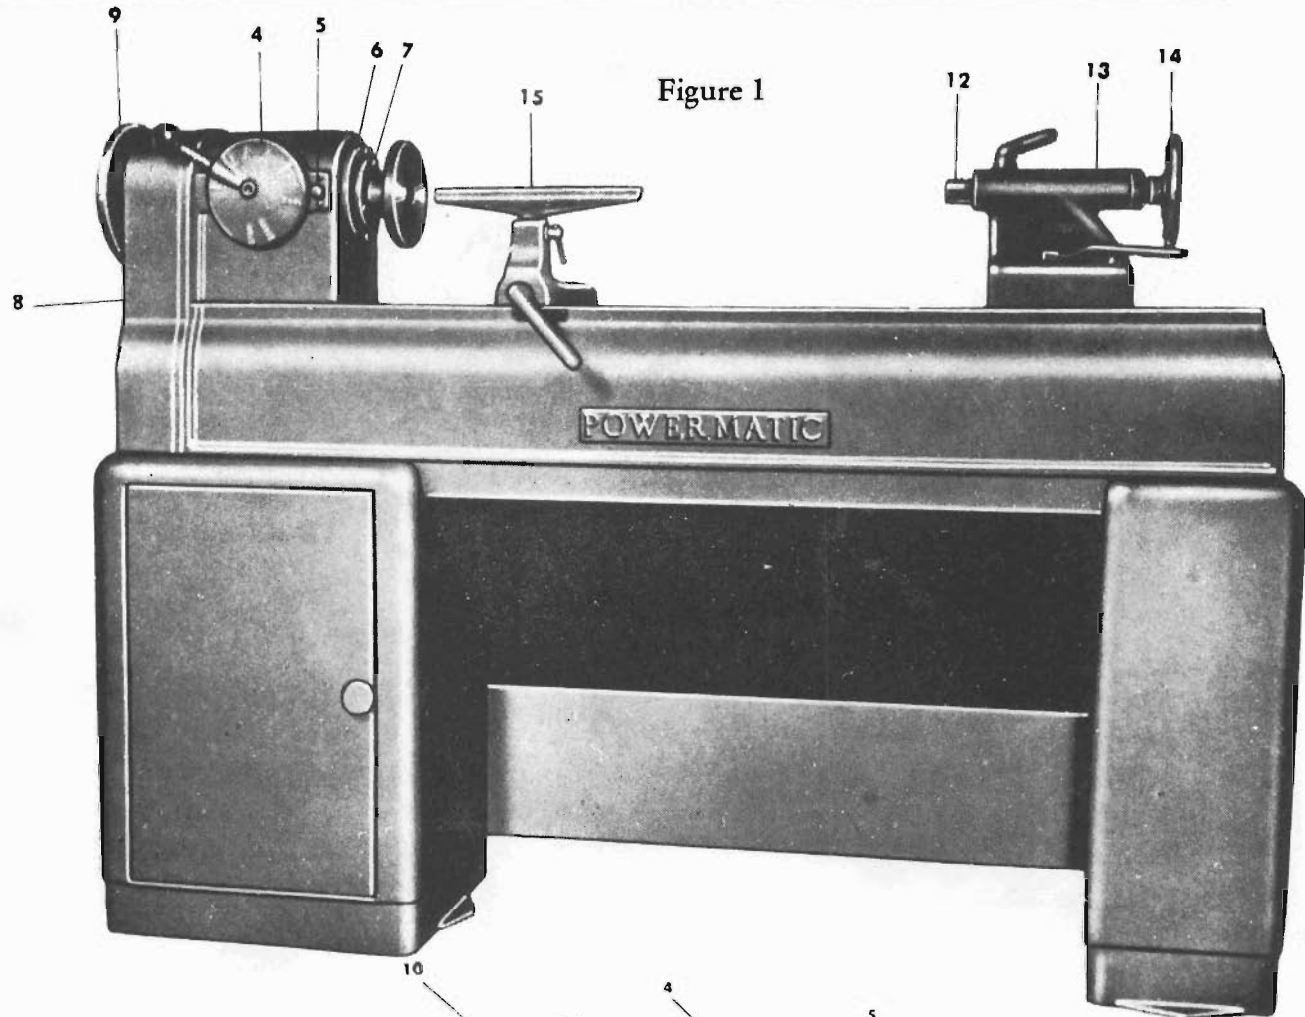

Figure 1
MOTOR: The lathe is equipped with a 1 HP 1800 RPM motor, mounted in lathe bed. The motor is checked at the factory and should give years of trouble free service. To inspect and service motor, remove guard (8) fig. 1, from end of lathe head stock by removing bolt in guard.
BELT AND DRIVE: The lathe spindle is driven with two variable split sheaves and a flat V-belt. The motor sheave is spring operated (10) fig. 2, and the lathe sheave spring operated (1) fig. 2, by a cam inside the lathe head and controlled with the variable speed plate (4) fig. 1. To remove drive belt, turn the power OFF the power line to the lathe, remove guard, turn the variable speed handle to the 4000 RPM position and remove belt. To replace belt, set variable speed dial to 4000 RPM position and replace belt. Turn variable speed handle back to the "stop" position, apply a steady pressure on the variable speed handle and rotate the spindle by hand until the belt has been forced to the outside of the spindle sheave. DO NOT FORCE HANDLE WITHOUT ROTATING SPINDLE.
SPINDLE: To remove the spindle, first remove the face plate (9) fig. 1 by locking the spindle with the locking pin (5) fig. 1 and removing the face plate (left hand threads). Remove the guard, drive belt and speed dial. Loosen the two set screws on the locking collar (3) fig. 2 and unscrew the collar (left hand threads). Loosen the set screw in the outer variable speed sheave (Part #107) and slip the sheave off the spindle. Use a screw driver to apply pressure against the inner sheave (Part #106) and slide out, together with bearings (#105) and sheave key. Take out the two set screws (#110), remove retaining cap (#109) and gently bump spindle out (toward tail stock) with a block of wood. Replace in reverse order.
SLEEVES, VARIABLE SPEED AND BEARING: To remove the two sleeves after the spindle has been removed, remove plunger (5) fig. 1 by removing the plunger cap. Care should be taken that the lock pin (#114) does not drop down into the head stock. Loosen set screw (#125) by inserting a 5/32 allen wrench through slot in sleeve, turn about one round and remove the variable speed shifting pin (#122). Remove the sleeve retaining cap (6) fig. 1 and remove the variable speed sleeve (#102) and bearing sleeve (#101). Oil with a thin coat of oil before installing.
TOOL REST: The tool rest (15) fig. 1 can be adjusted to any desired angle, height or position on the lathe bed.